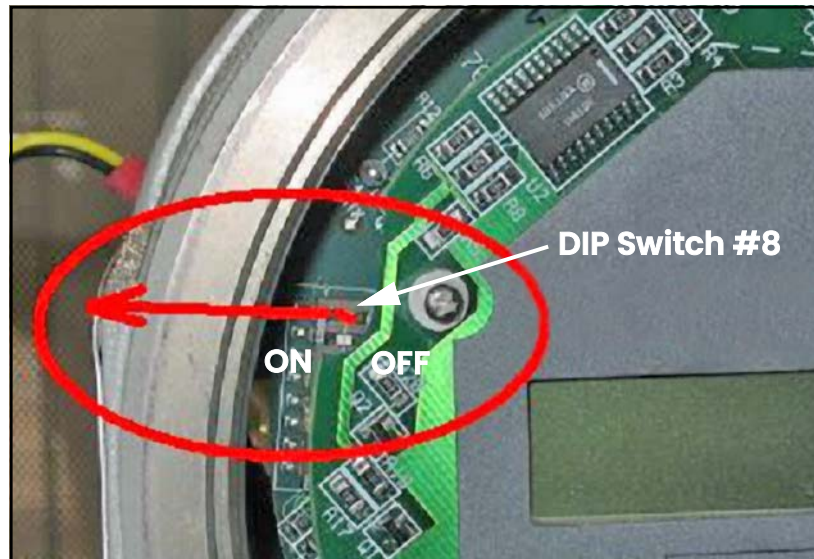

Figure 65: Moving DIP Switch #8 to ON
5. Use a small screwdriver to move the top (#8) switch to the **ON** (left) position (see *Figure 65* below).